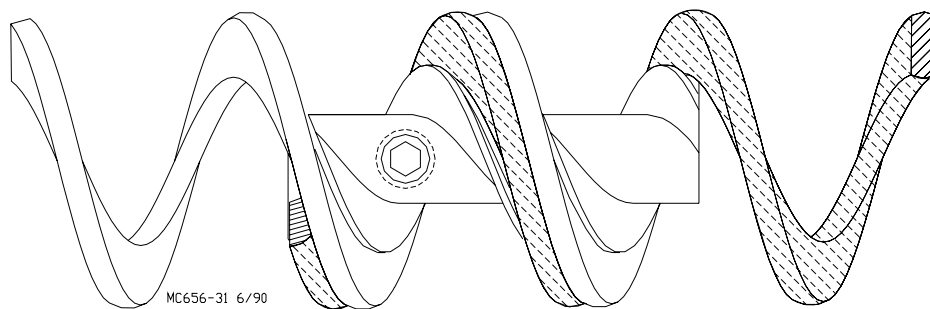

Figure 34. Auger Connector
2. Untwist the remaining end of the Auger 1-1/2 turns so when it is threaded into the first end of the Auger it will return to its relaxed position. Auger ends must be overlapped **NOT** butted when threaded into the track of the Auger Connector. See **Figure 34**.